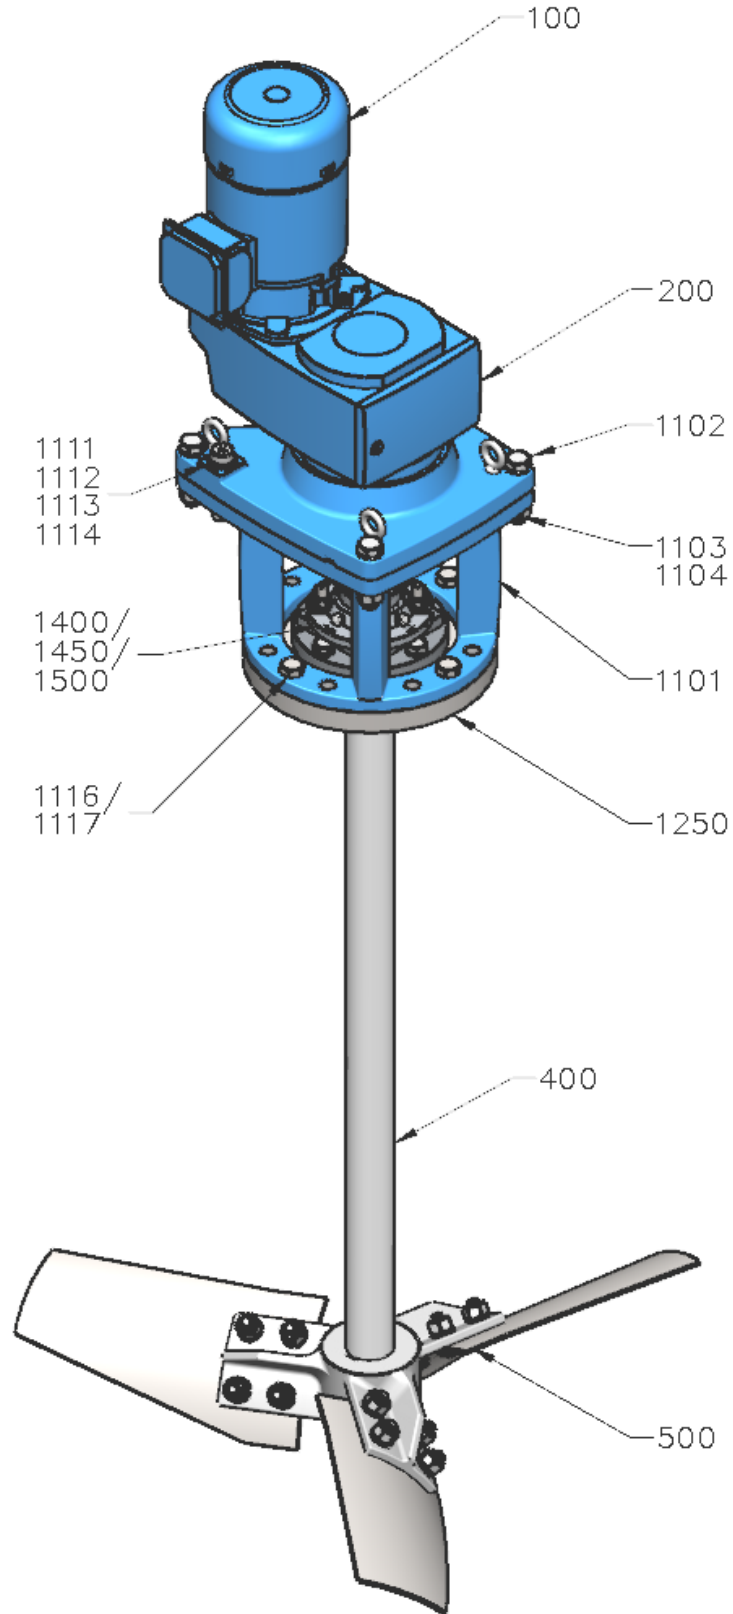

Figure 4. MRN Agitator Assembly
- Install handhole cover bolts, lockwashers [1106, 1107] into the pedestal [1101]. Refer to Figure 15 or Figure 16, page 34. Assemble the pedestal to mounting flange [1251] using bolts and lockwashers [1116, 1117] (see Figure 4). Torque bolts to value shown in the APPENDIX, Page 101. Install gear drive support pedestal/mounting flange assembly to vessel nozzle, along with the gasket and fastener set furnished by customer (on stud mounted units, studs [1258] are supplied by Chemineer).